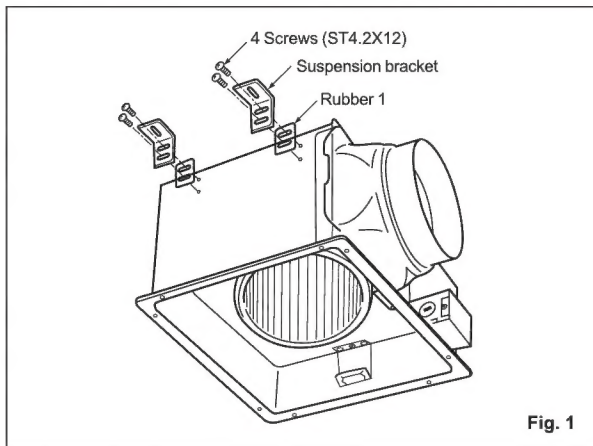

Fig. 1
2. Assemble suspension bracket and rubber 1 to fan body. (Fig. 1)